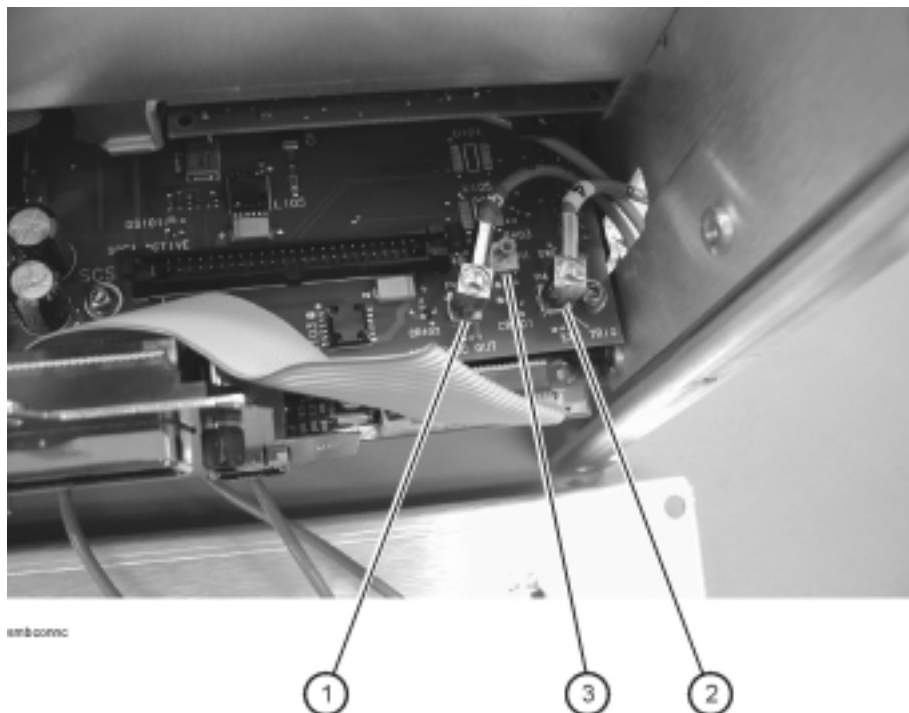

Figure 3-31. Removing the SMB connectors from the motherboard
- 11 Mark and disconnect the two monochromator SMB connectors from the left rear corner of the mezzanine board. See ① and ② in Figure 3-31 below. SMB middle connector (③) is not used.
- 14** Mark and disconnect the two monochromator SMB connectors from the left rear corner of the mezzanine board. See ① and ② in Figure 3-31 below. The middle SMB connector (③) is not used.